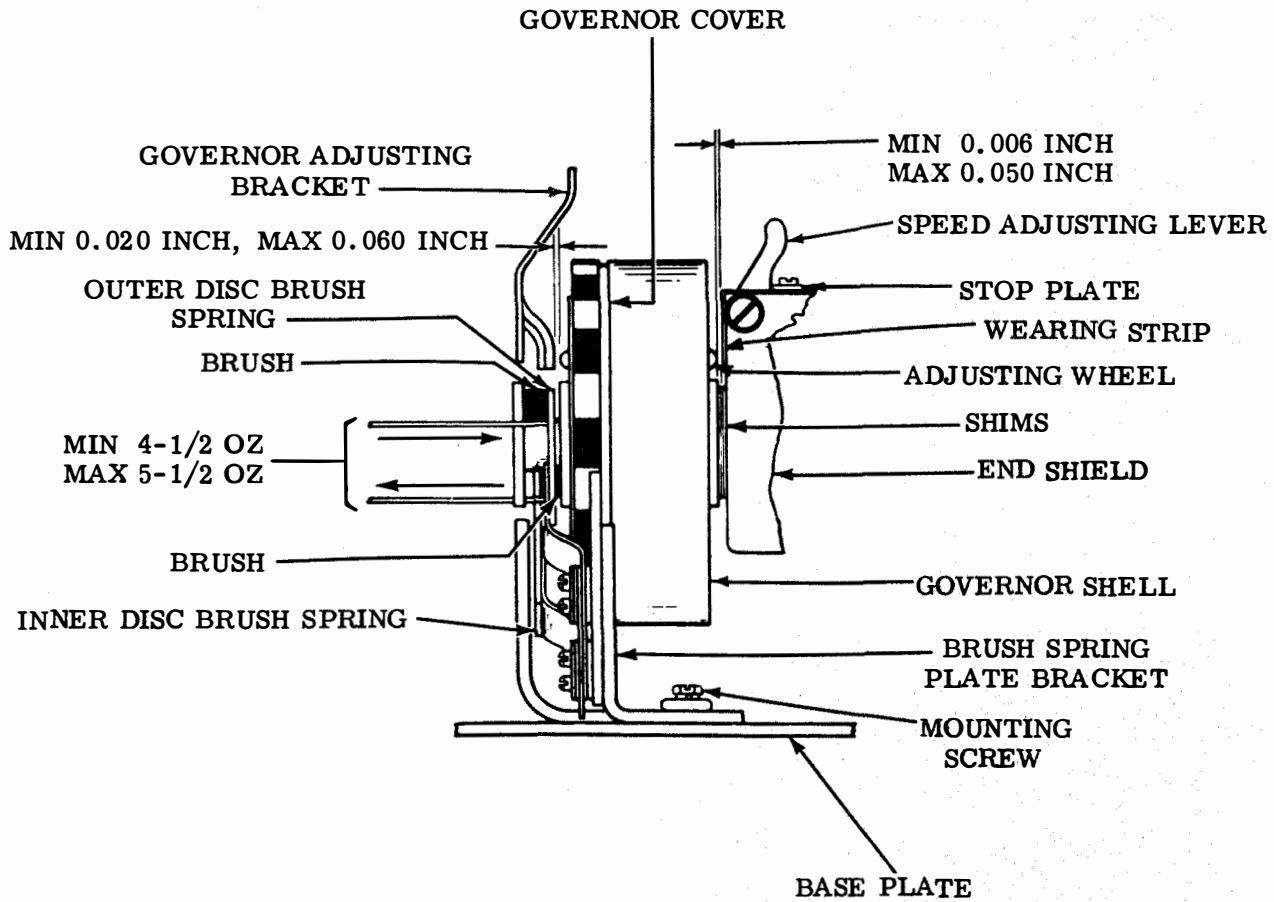

Figure 9 - Governor Brush Spring Plate Bracket Assembly
To Adjust: Position the adjusting lever stop plate by means of its elongated mounting holes. (See Figure 9.)
To Adjust: Loosen the brush-spring-plate mounting screws and reposition the bracket. Tighten the screws. (See Figure 9.)
To Adjust: Remove and bend the brush spring. Reassemble the spring and recheck (6). (See Figure 9.)
(8) Outer-disc Brush-spring Tension: It shall require minimum 4-1/2 ounces, maximum 5-1/2 ounces to start the brush moving away from its disc.
(9) Governor-brush Alignment: The outer edge of the brushes shall be within $3/64$ inch of the outer edge of the discs throughout one revolution of the governor; and a line established by the center of the outer disc and the center of one of the brushes shall pass through some portion of the other brush.
To Adjust: Bend the governor-adjusting bracket. (See Figure 9.)